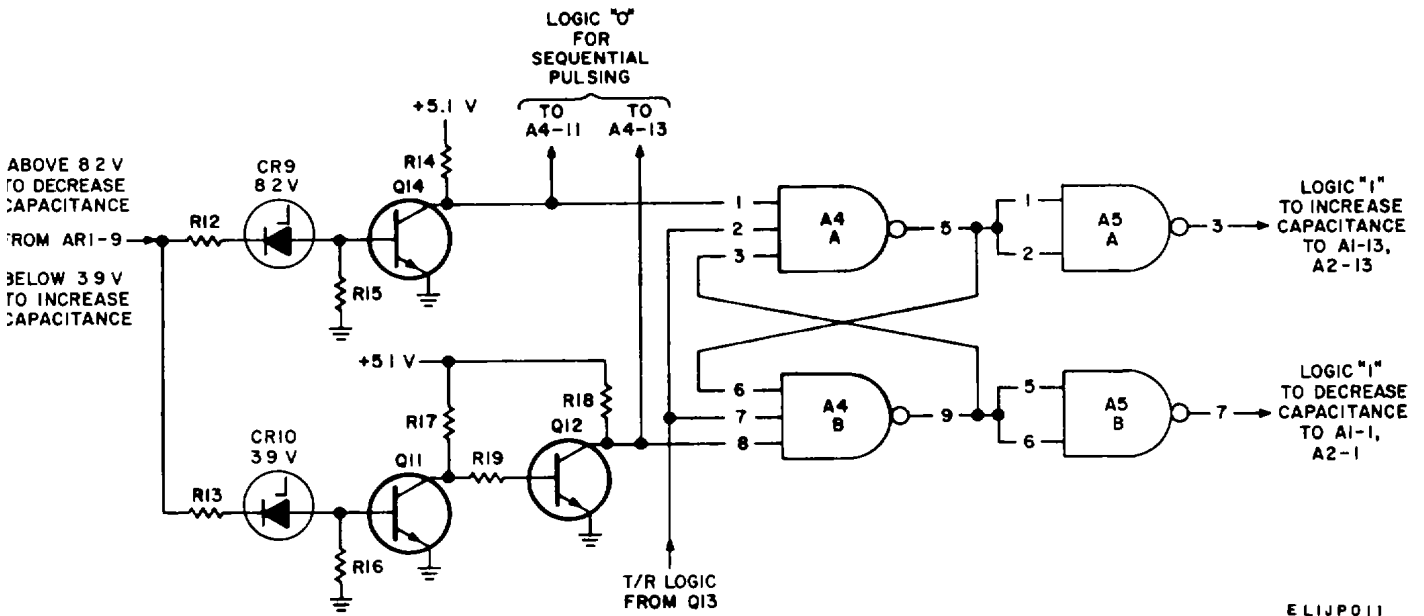

Figure 2-5. Servo rotation logic, simplified schematic diagram.
b. When the output from AR1 changes above or below the threshold of CR9 or CR10, (fig. 2-5), servo rotation logic is turned on, engaging the sequential pulsing logic which, in turn, provides a gating pulse to Q18.
(fig. 2-5)